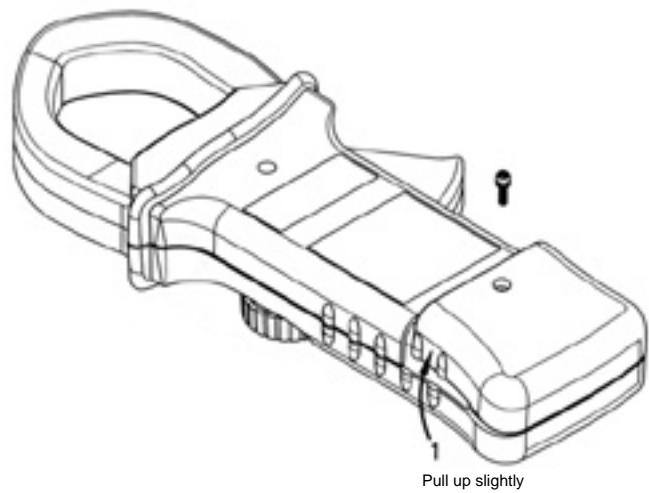
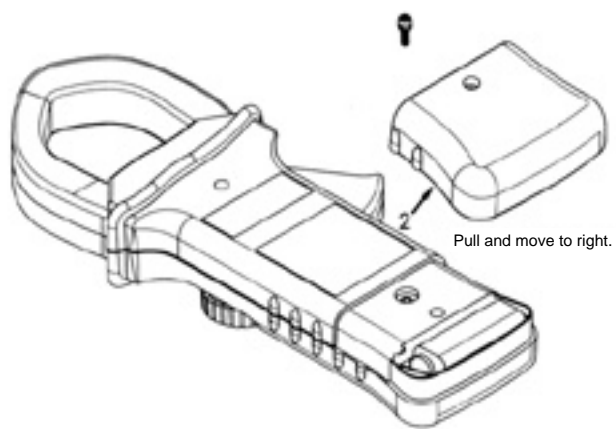

Figure 26. step 1 of Battery replacement.
Figure 27. Step 2 of Battery Replacement.
4. Pull the cover up slightly and slide the battery cover off (see **Figure 26** and **Figure 27**).